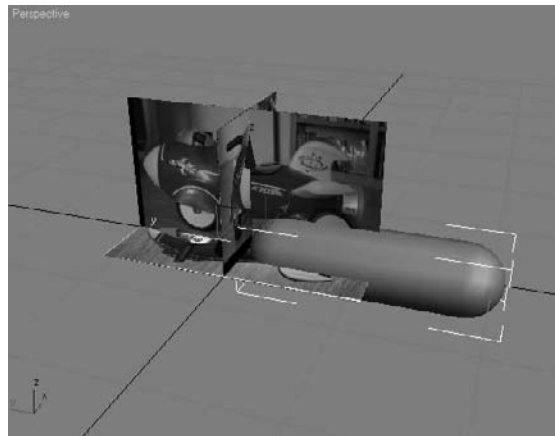

Figure 5.9
- Start in the Front viewport. In the Create panel, click the Geometry icon () and select Extended Primitives in the drop-down menu. Click to activate the Capsule tool, and then create a Capsule object with Keyboard Entry values set to a Radius of 3 and a Height of 21. Remember to use the Front viewport so that the capsule is created oriented as shown in Figure 5.9.